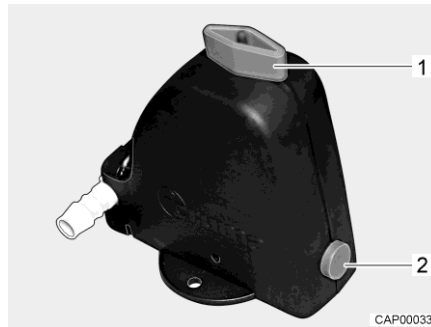
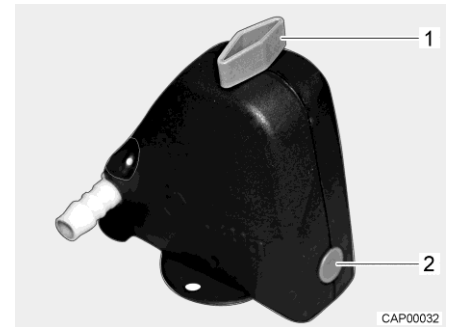

Fig. 61 Safety/drainage valve open
Fig. 62 Safety/drainage valve closed
- Close the safety/drainage valve. Turn the knob (Fig. 61,1) perpendicular to the safety/drainage valve and push the push button (Fig. 61,2) in. The closed safety/drainage valve is shown in Fig. 62. If the temperature is below 6 °C, the safety/drainage valve cannot be closed.